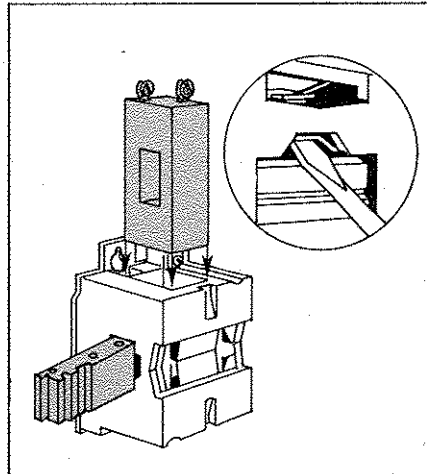

Figure 1.
3. Insert a screwdriver blade between magnet and magnet retaining clip. Twist blade to force retaining clip away from magnet. Push down on screwdriver, dislodging magnet; then applying firm pressure with screwdriver, push magnet through coil to position shown in Figure 1.